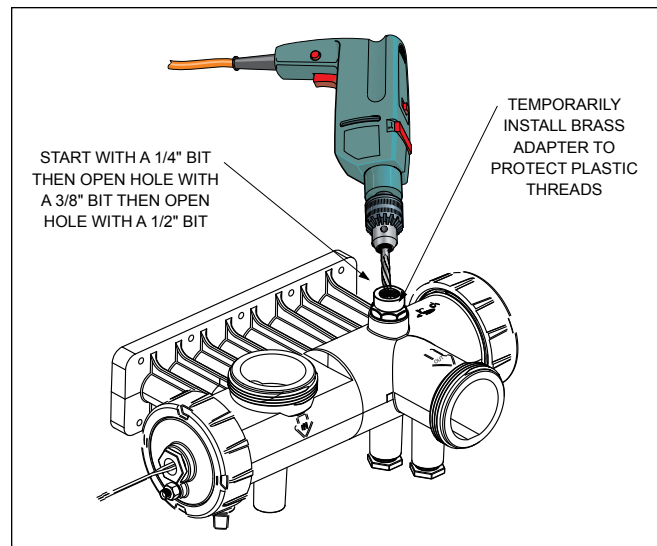

Figure 18. Drill Hole for Pressure Relief Valve
2. Using the countersink in the center of the blind hole as a guide, drill a ¼ inch hole through the plastic. See Figure 18.